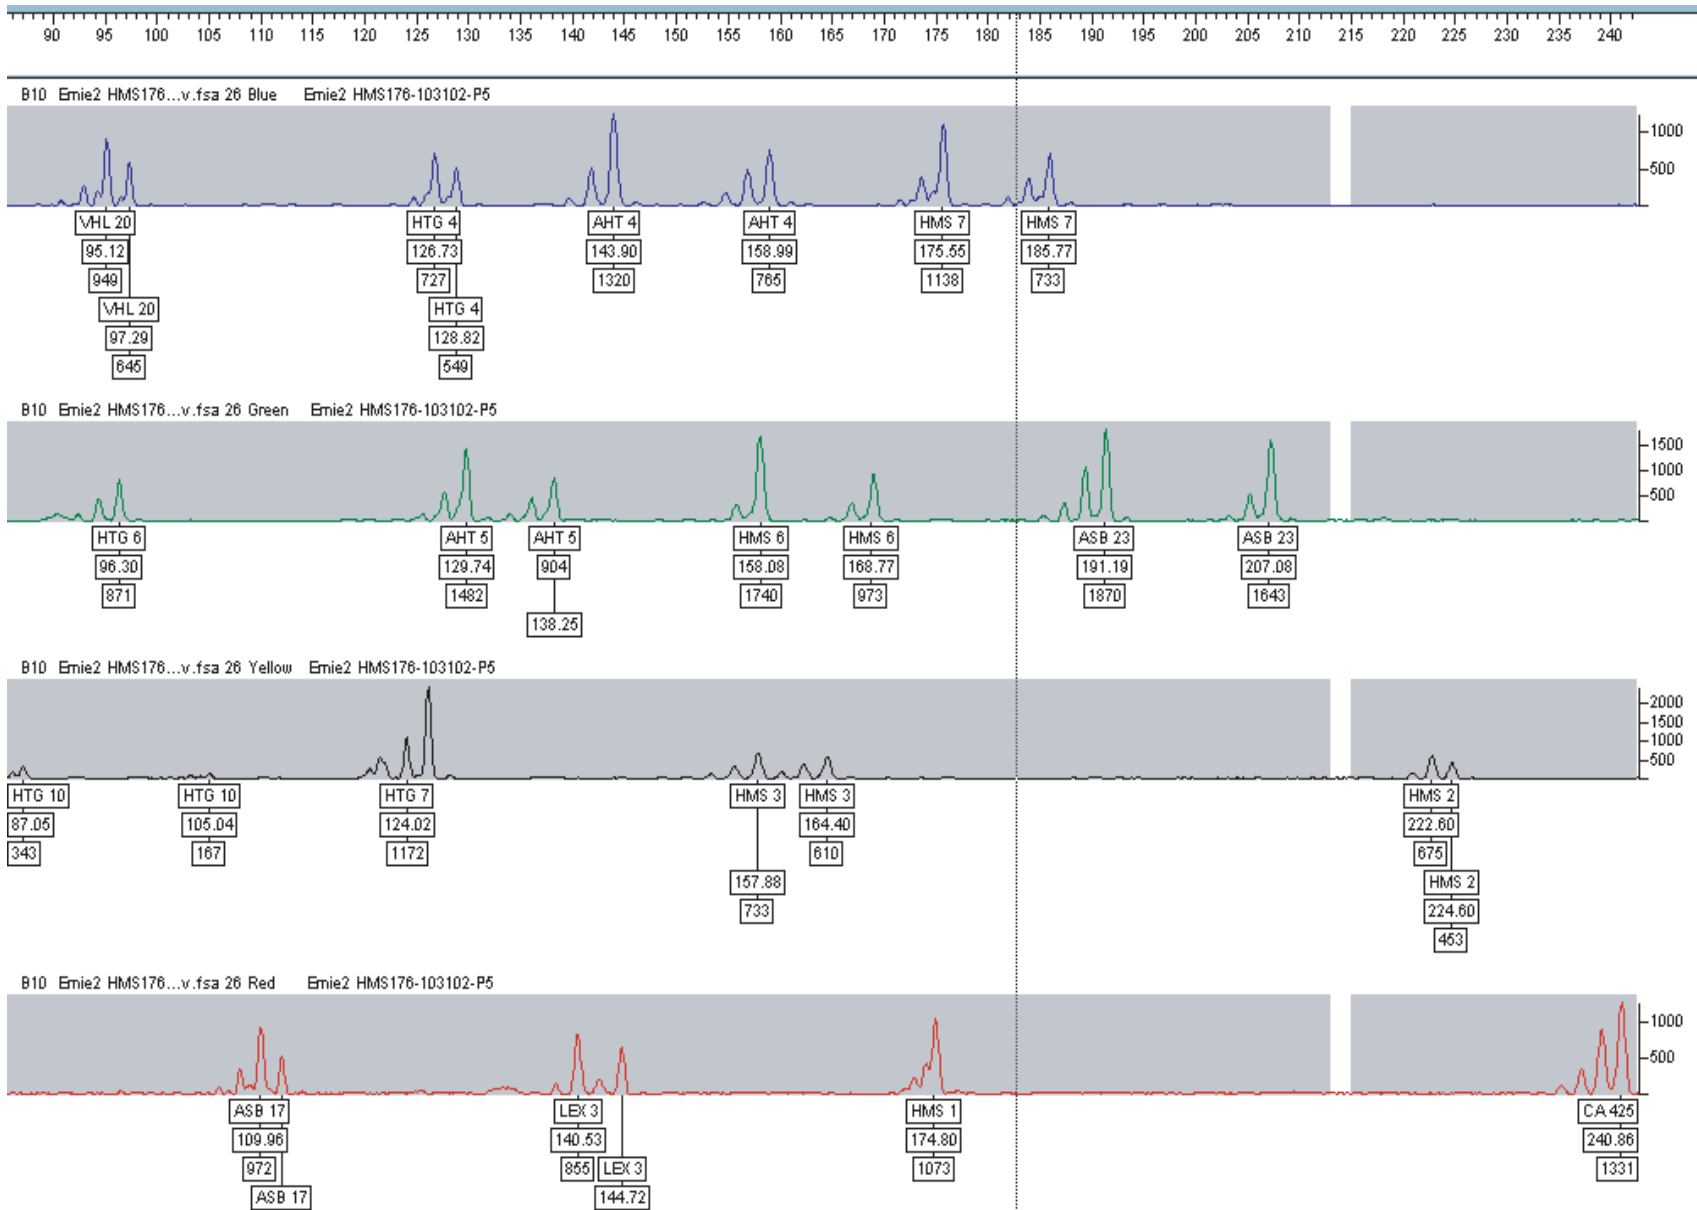

Figure 2 Genotyper™ software analysis of PCR amplification products using equine control DNA separated on the Applied Biosystems® 310 Genetic Analyzer
- Applied Biosystems® 310 Genetic Analyzer (Figure 2 on page 24)